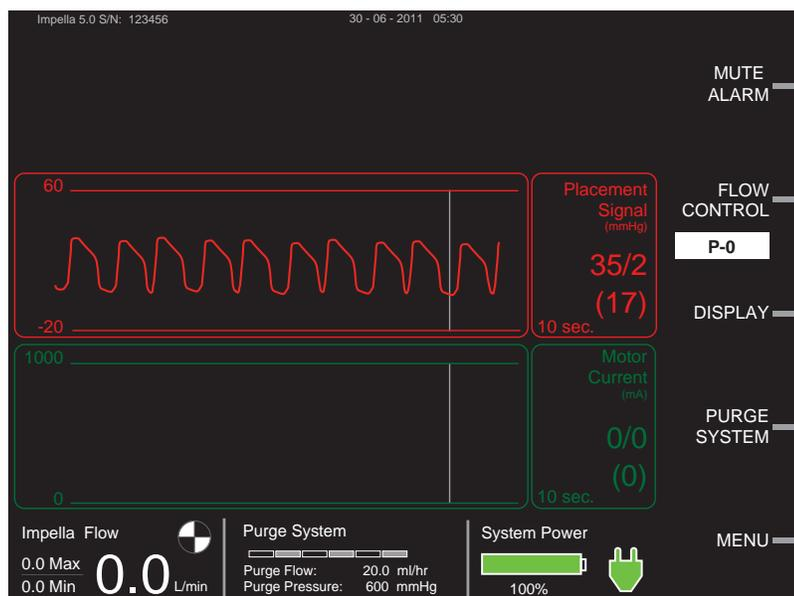

Figure 5.44 Pulsatile Waveform on Placement Screen
2. Gently advance the catheter forward until a pulsatile waveform is present on the placement signal screen (see Figure 5.44) This signal is generated when the inlet area of the catheter crosses the aortic valve.